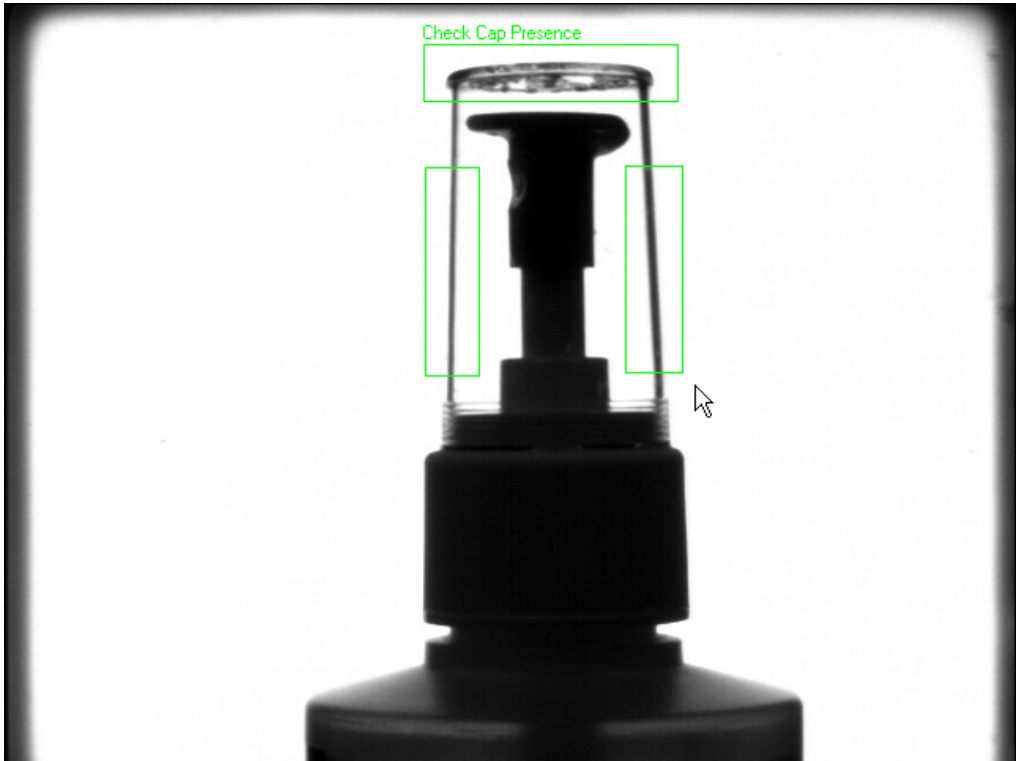

Figure 2-4. Defining Regions in Which to Measure Intensity
5. Using the default **Rectangle Tool**, hold down <Ctrl>, and draw three regions of interest that enclose edges of the cap, as shown in Figure 2-4.